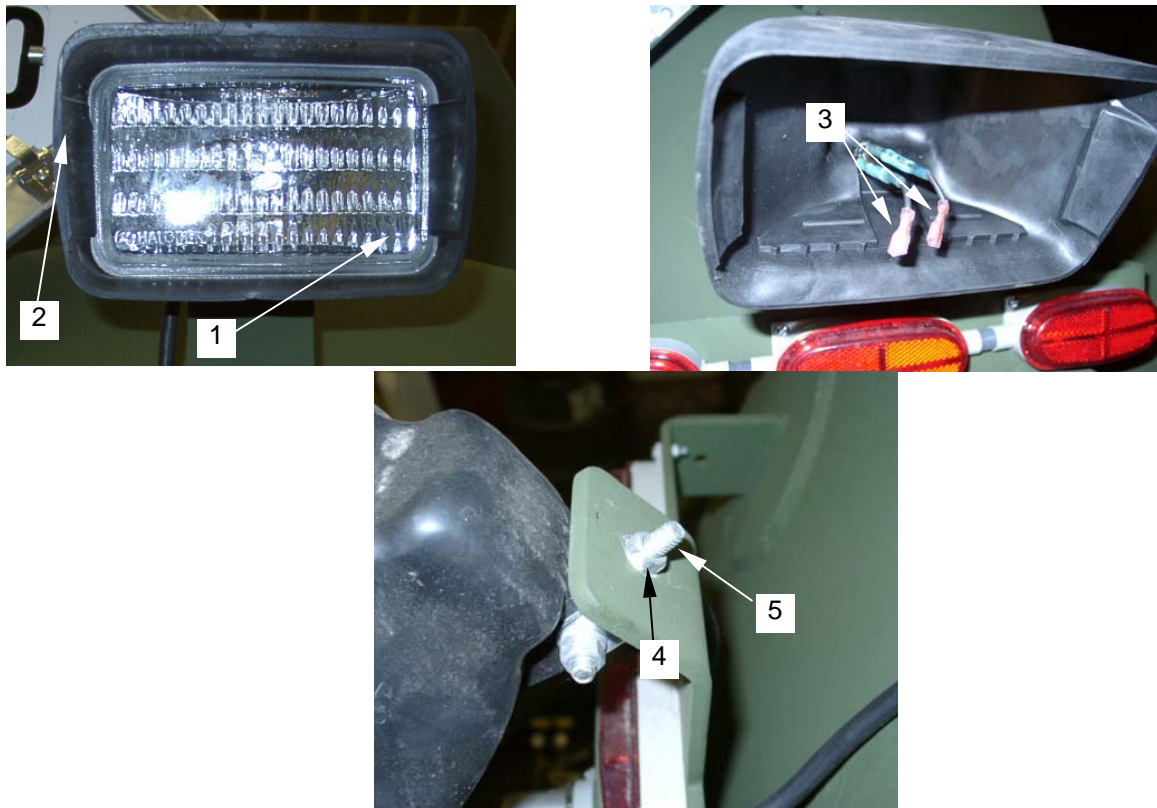

Figure 2. Work Light Hood Replacement
- b. Remove light bulb (**figure 2, item 1**) from hood (**figure 2, item 2**).
- c. Disconnect wiring (**figure 2, item 3**) from bulb (**figure 2, item 1**).
- e. Remove wiring from hood (**figure 2, item 2**).
- f. Loosen and remove mounting nut (**figure 2, item 4**) and bolt (**figure 2, item 5**).
- i. Fasten hood in place with mounting nut (**figure 2, item 4**) and bolt (**figure 2, item 5**).
- j. Insert wiring (**figure 2, item 3**) into hood.
- k. Connect wiring to bulb (**figure 2, item 1**).
- l. Insert bulb into hood (**figure 2, item 2**).